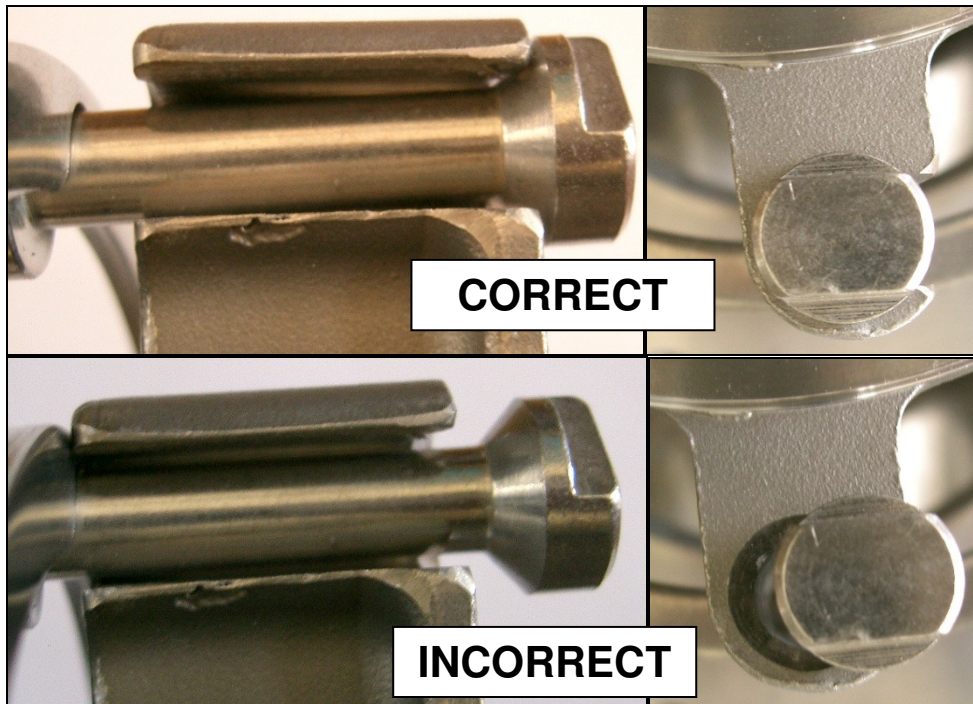

Figure 4
- 3.6 Verify/ensure that all 4 valve Retaining Posts are engaged fully and locked into place with Spider locking features. (See Figure 4)
Spring Housing Assembly misaligned on Retaining Posts	Ensure Spring Housing Assembly is fully engaged on Retaining Posts (See Figure 4)